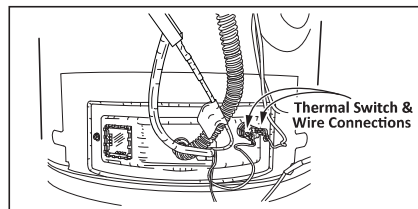

Figure 51 - Thermal Switch and Wire Connections
**5** Disconnect both wire connectors at the thermal switch (See Figure 51).